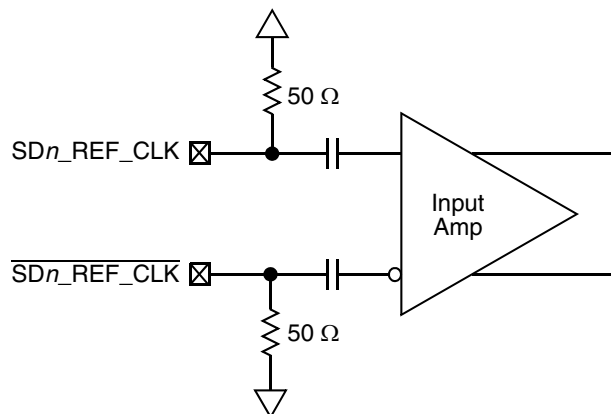

Figure 45. Receiver of SerDes Reference Clocks
Figure 45 shows a receiver reference diagram of the SerDes reference clocks.
- The SDn_REF_CLK and $\overline{\text{SDn_REF_CLK}}$ are internally AC-coupled differential inputs as shown in Figure 45. Each differential clock input (SDn_REF_CLK or $\overline{\text{SDn_REF_CLK}}$) has a 50- Ω termination to SGND_SRDSn (xcorevss) followed by on-chip AC-coupling.